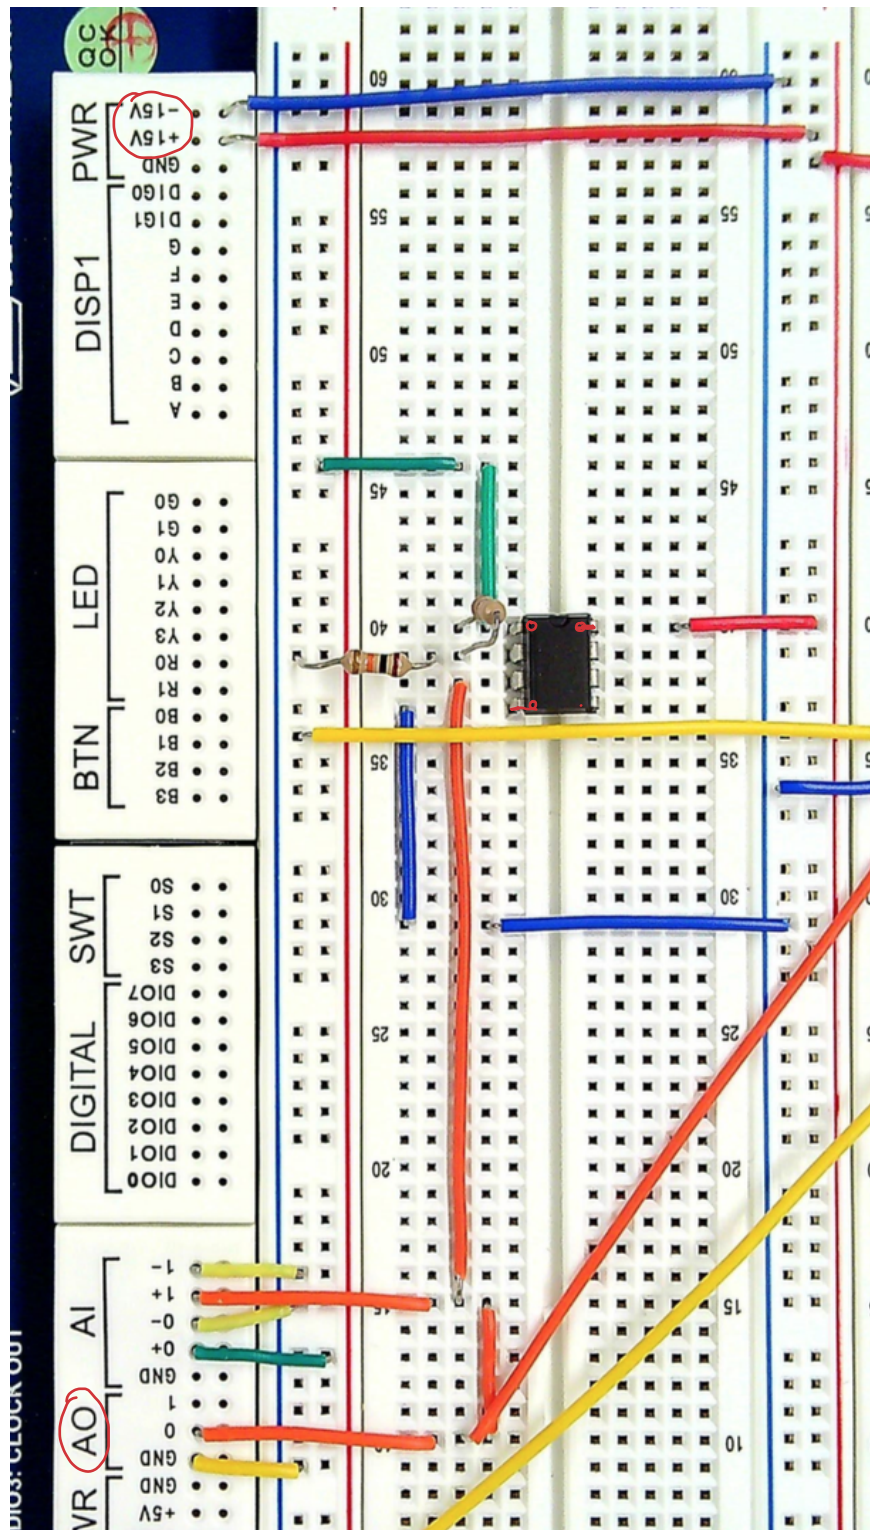

Figure 1: Sample wiring diagram for LM358 op-amp.
In this experiment you will construct and test two op-amp circuits. The first will be the non-inverting amplifier shown in Figure 1, using National Instruments' LM358 DIP (dual in-line package) chip. The second will be an instrumentation amplifier circuit using Analog Device's AD622 DIP. Both circuits will have a gain of approximately $G = 3$. Details for both of these DIP chips are given at the end of this document.
- Place the op-amp in the bread board across the center channel as seen in Figure 1.
- Connect your resistors as shown in Figure 1, with $R1 = 10\text{ k}\Omega$ and $R2 = 20\text{ k}\Omega$.
- Sample breadboard circuit is shown in Figure 1. Few things to note in the circuit. The wiring provided is color coded for clarity